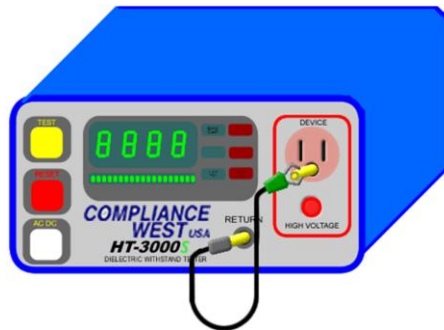

Figure 5. Short on the Ground Continuity Circuit
4. Plug the supplied 18 AWG GL Test Lead (Alligator Clip/Banana Plug ends, black) into the **RETURN** receptacle on the front panel, then, connect in shortcut circuit the green alligator clip end to the Ground Connector Tip connected on step 3. See Figure 5.